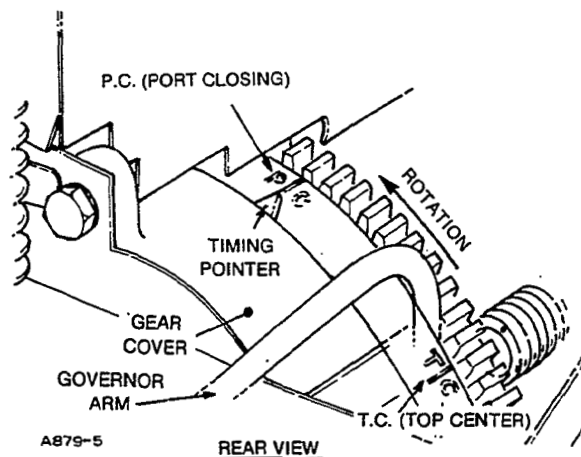

FIGURE 52. PORT CLOSING POSITION
5. Rotate flywheel clockwise (when facing front of engine [Figure 52] to point where PC mark on flywheel is about 15 degrees (1.25 to 1.50 inch [32-38 mm]) before timing pointer on gear cover (compression stroke of No. 1 cylinder).
Timing is correct if port closing occurs when PC mark on flywheel aligns with timing pointer (Figure 52). If the marks do not line up, timing is either early or late and the timing button must be changed.
1. Turn engine in direction of rotation (clockwise when viewed from the front of engine) until number one cylinder is on a compression stroke and the PC mark on flywheel lines up with timing pointer on gearcase (Figure 52). Rotation clockwise also takes out all gear backlash in that direction.